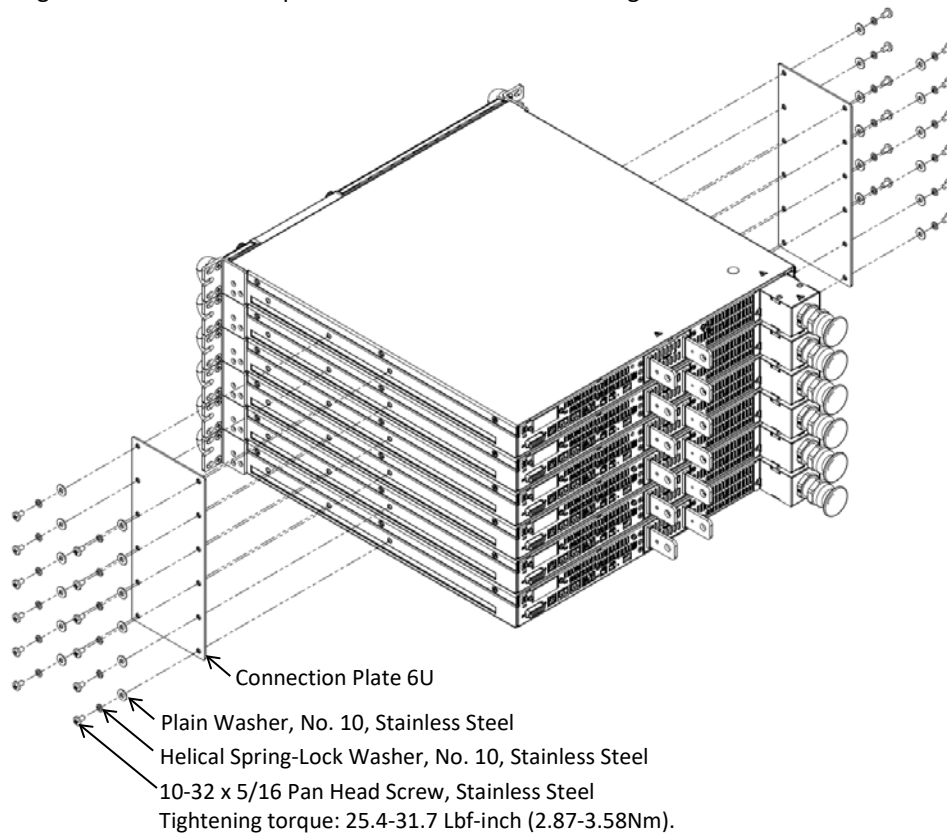

Figure 1: Six 60V±100V Units Connection Plates 6U Assembly
1. Attach connection plates, one on each side of the power supplies, using 24 pan head screws, 24 helical spring-lock washers and 24 plain washers as illustrated in Figure 1.